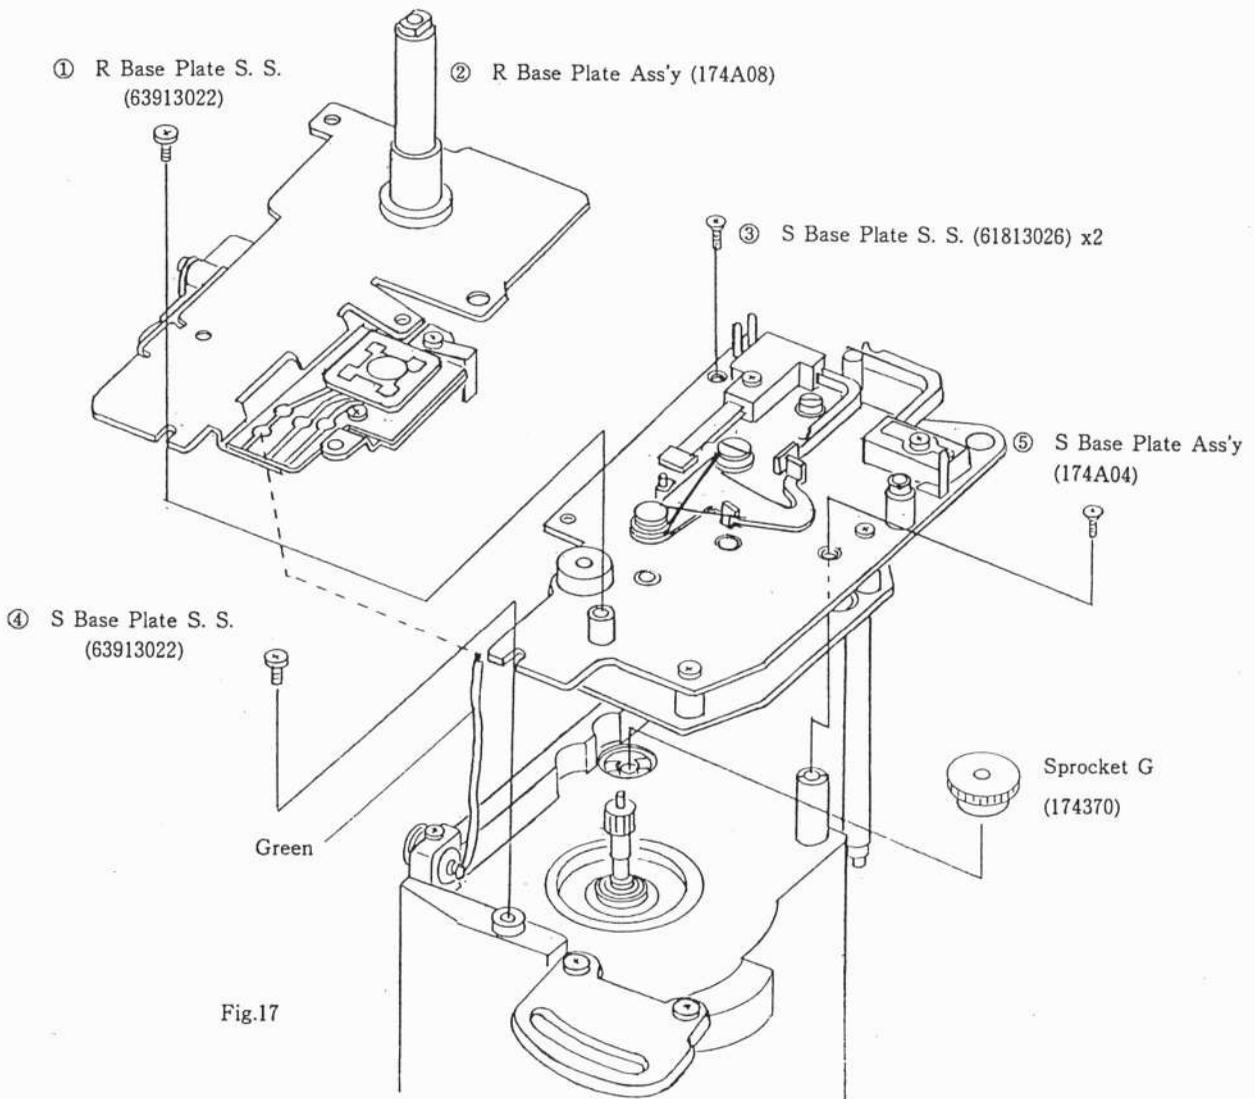

Fig.17
2) Remove the respective parts ①~⑤ shown in (Fig 17) in numerical order.